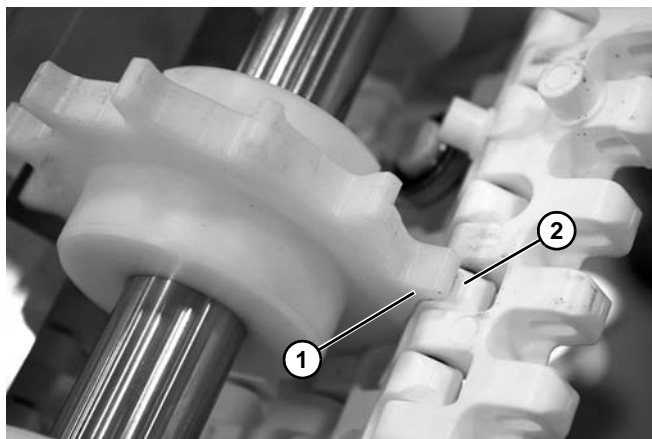

Figure 17
7. Wrap the belt around the drive end of the conveyor. Make sure the sprocket teeth have engaged the belt with the teeth (**Figure 17, item 1**) mating with the rounded section (**Figure 17, item 2**) of the belt.